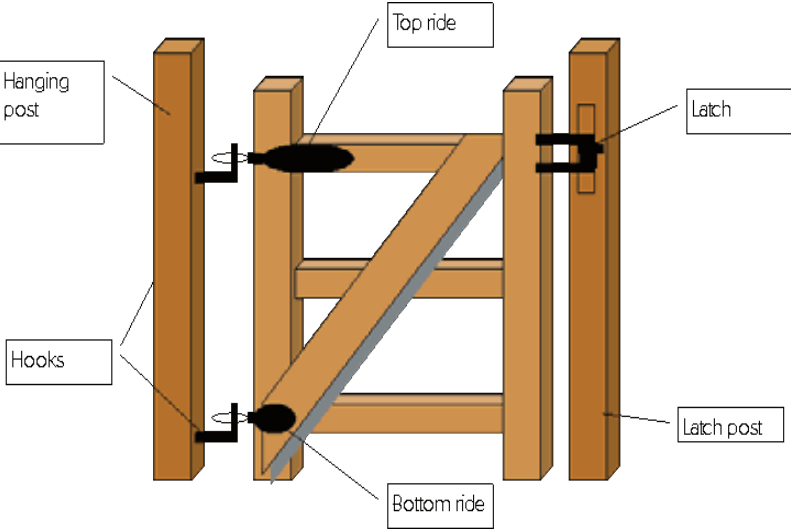

Figure 1.
- The gate kit will come in the form of two wooden posts, a wooden gate, and various metallic fixings (See Fig. 1)